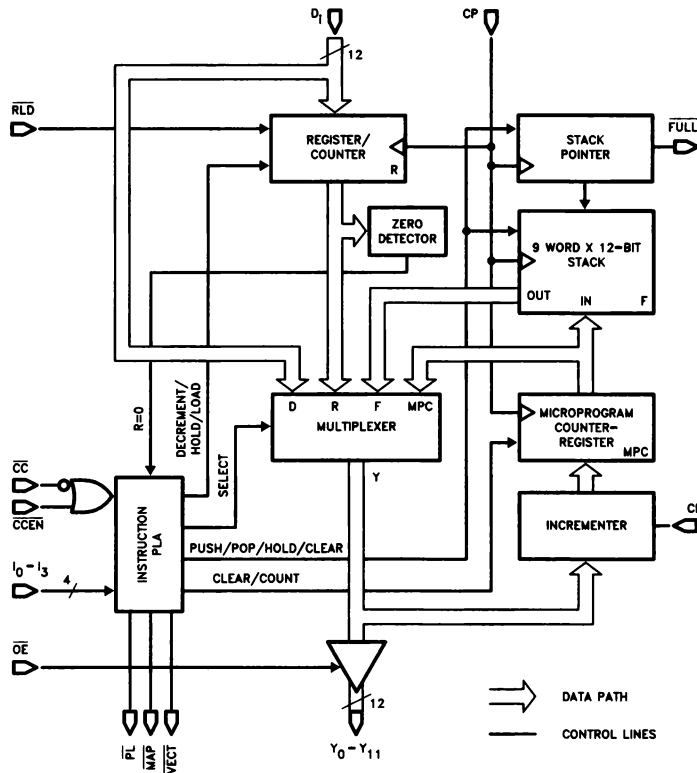

Figure 1
The CY7C910 is a high performance CMOS microprogram controller that produces a sequence of 12-bit addresses that control the execution of a microprogram. The addresses are selected from one of four sources, depending upon the (internal) instruction being executed (I0–I3), and other external inputs. The sources are (1) the (external) D0–D11 inputs, (2) the RC, (3) the stack and (4) the MPC. Twelve bit lines from each of these four sources are the inputs to a multiplexer, as shown in *Figure 1*, whose outputs are applied to the inputs of the Y0–Y11 three-state output drivers.